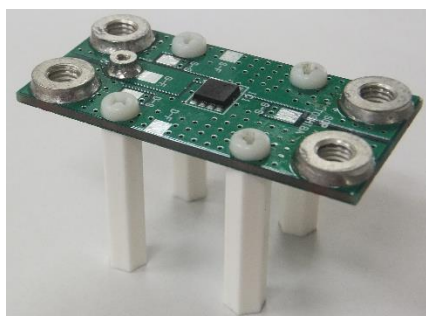
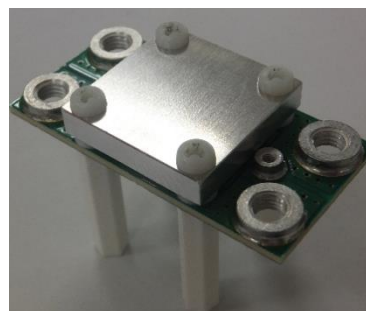

Fig. 3.5 Heat Dissipation from Board Side Only for SOP Advance(WF)
Fig. 3.6 Heat Dissipation from Both Aluminum Heat Sink and Board for DSOP Advance(WF)
Fig. 3.5 and Fig. 3.6 show the mounting condition of SOP Advance(WF), and DSOP Advance(WF) with aluminum heat sink, respectively. Thermal impedance from the board only (for SOP Advance (WF) package), and from both aluminum heat sink and the board (for DSOP Advance (WF) package) were compared.